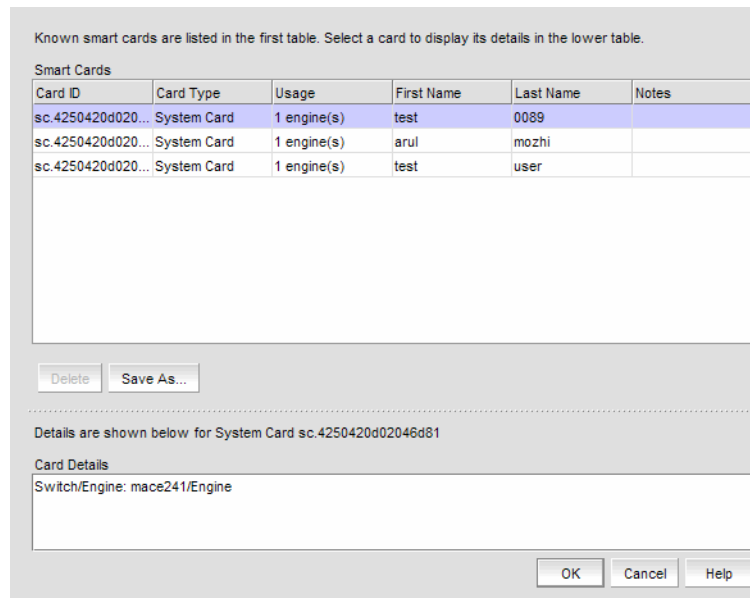

FIGURE 201 Smart Card Asset Tracking dialog box
2. Select **Smart Card > Smart Card Tracking** from the menu task bar to display the **Smart Card Asset Tracking** dialog box. (Refer to Figure 201.)